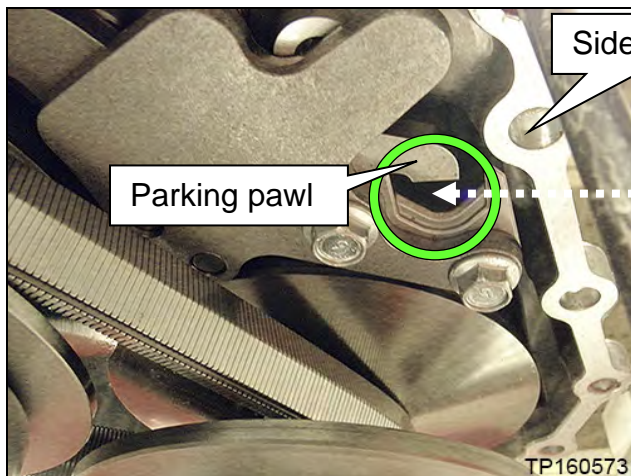
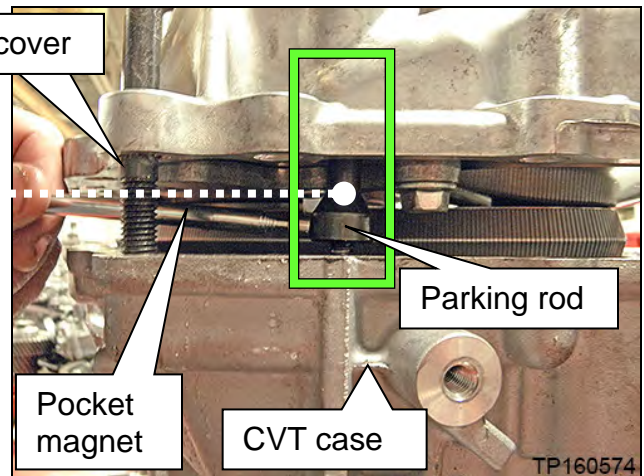

Figure 27F
Figure 28F
- d. Use a magnet, or similar tool, to align the park rod in the CVT case ( in Figure 28F) with the opening in the parking pawl ( in Figure 27F) in the side cover.